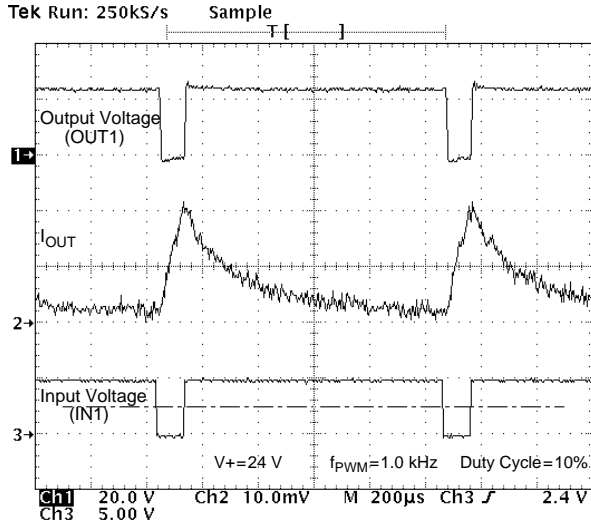

Figure 10. Output Voltage and Current vs. Input Voltage at V+ = 24 V, PMW Frequency of 1.0 kHz, and Duty Cycle of 10%
- The outputs can be PWM controlled from an external source. This is typically done by holding one input high while applying a PWM pulse train to the other input. The maximum PWM frequency obtainable is a compromise between switching losses and switching frequency. Refer to Typical Switching Waveforms, Figures 10 through 17, pp. 10–11.